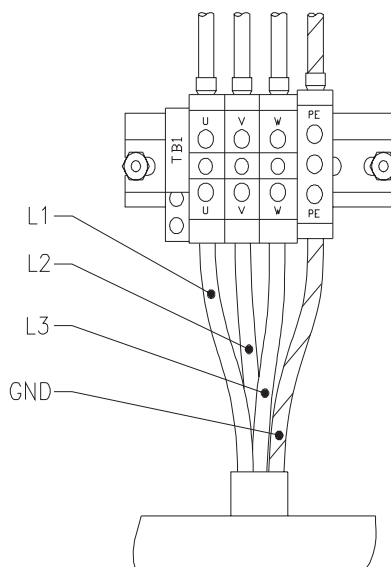

Figure e-3 Power Cable Connections to TB1
4. Connect leads L1 to U, L2 to V, and L3 to W terminals of TB1 (see Figure e-3). Ensure that all connections are tight to avoid excessive heating.
5. Connect the ground lead to terminal marked PE at TB1 (see Figure e-3).